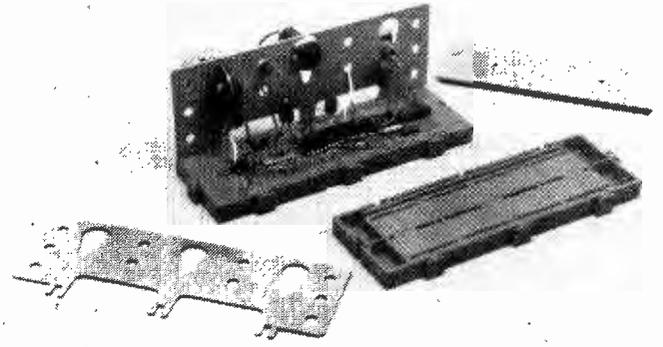

Fig. 3
**Bim Board 1**, see Fig. 3, measures 150 × 50mm and follows the socket connection system in Fig. 1(a). The layout will accept 0.3in i.cs, or 0.6in types by sacrificing some potential connection points. Most other discrete components can be accommodated with lead diameters up to 0.85mm. The block has 470 main sockets in a 0.1in matrix organised in two columns, each of 47 rows containing five interconnected sockets. Two extra rows, each of 40 interconnected sockets, serve as power supply rails. The strips of sockets, which are replaceable, are double-sided types constructed from nickel silver with a contact resistance rating at 1A of 10m $\Omega$ . On the top of the board the matrix area has the columns and rows numbered and lettered for easier circuit construction. The plastic moulding is provided with male and female connectors so that several boards can be locked together in an expanded system. A plug-in vertical panel is also provided for mounting external components.